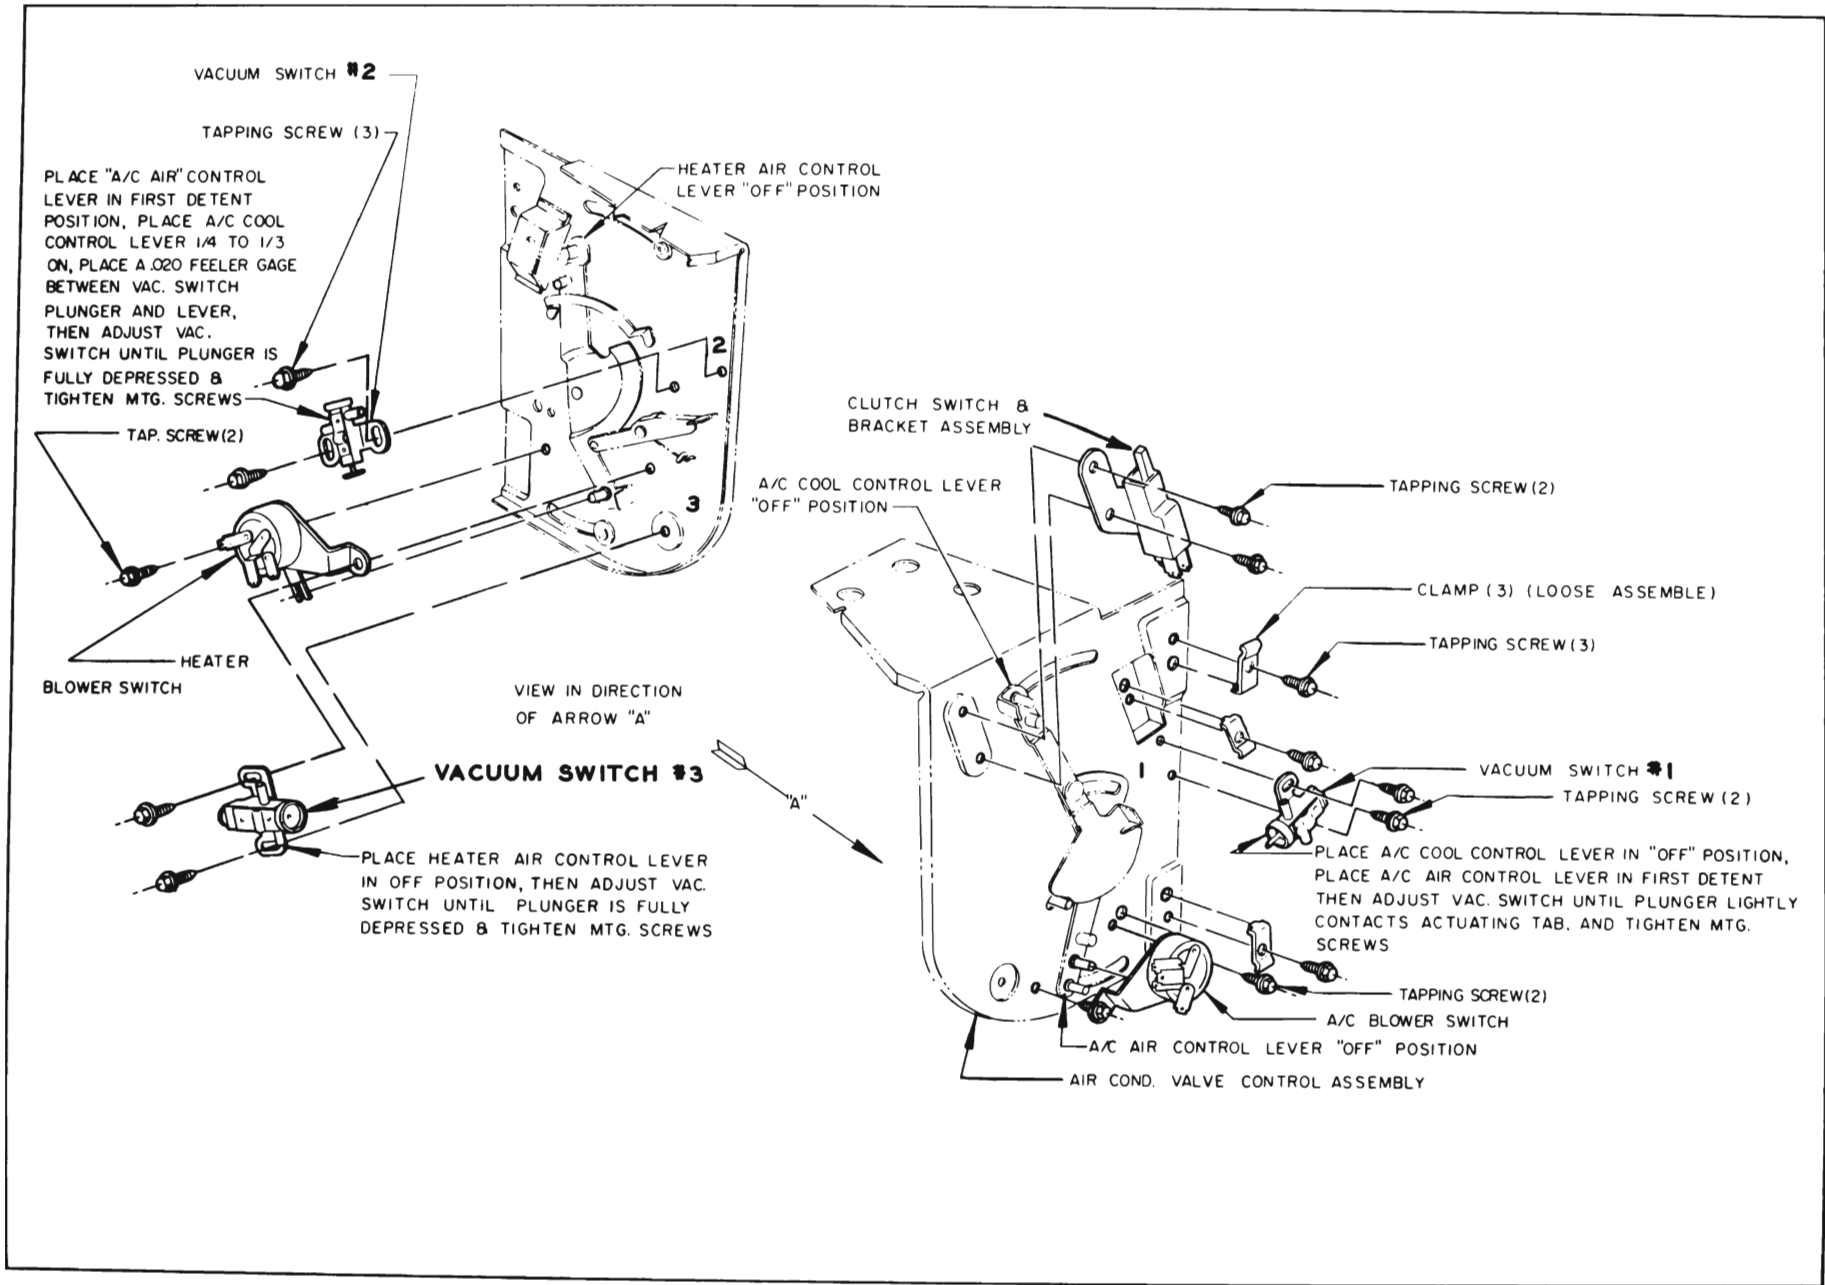

Figure 11-62—Vacuum Switch Adjustment
3. Vacuum Switch Adjustment. Check operation of vacuum switches by referring to Figures 11-54 through 11-58. Place the control levers as indicated in each figure and check for vacuum at each diaphragm by pulling the hose off the diaphragm fitting and holding finger over end of hose. If vacuum switches are functioning correctly, vacuum will be present only at these diaphragms indicated by "Vacuum on" in each figure. The adjustment procedure for each vacuum switch is listed below and on Figure 11-62.